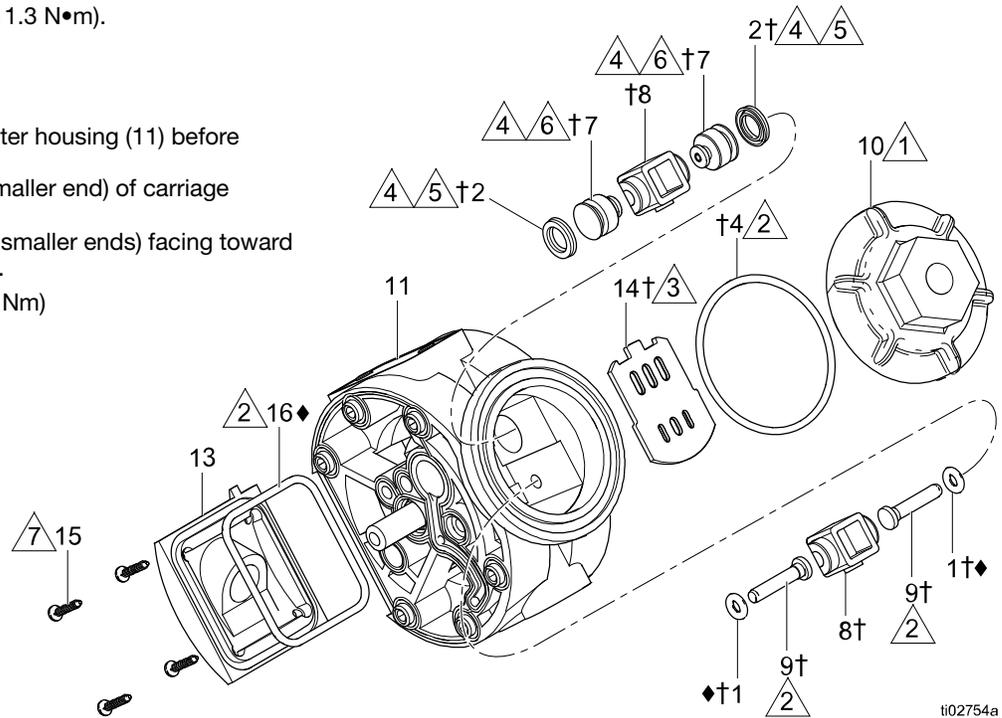

FIG. 10: Air Valve
NOTE: Air Valve Repair Kit 241657 is available. Parts included in the kit are marked with (†) in FIG. 10 and FIG. 11. A tube of general purpose grease is supplied in the kit.
- When you install each U-cup packing (2) on each carriage plunger (7), make sure the lips of the U-cup packing face toward the clip end (the smaller end) of the carriage plunger.
- When you slide the carriage plungers (7) into the bores, slide them in with the clip ends (the smaller ends) facing toward the center of the center housing (11).
7. Grease the carriage pins (9), and slide the carriage pins into the carriage pin bores.
8. Install the carriages (8). Make sure the carriages engage the clip ends of the carriage plungers (7) and carriage pins (9).
9. Grease the O-ring (4), and seat it in the groove around the cover opening of the center housing (11).
10. Screw the cover (10) into the center housing, and torque the cover to 80–100 in-lb (9.0–11.3 N•m).
NOTE: Center housing (11) is shown in FIG. 10 separated from the air covers, but it is not necessary to remove the air covers for this service. Leave the center housing and air covers assembled for this service. To replace the pilot pin O-rings (1), the air covers (119/126) will need to be removed. See **Air Section** on page 21.
NOTE: Air Section Repair Kit 25U241 is available. Parts included with the kit are marked with (◆) in FIG. 10 and FIG. 11. General purpose grease is supplied in the kit.